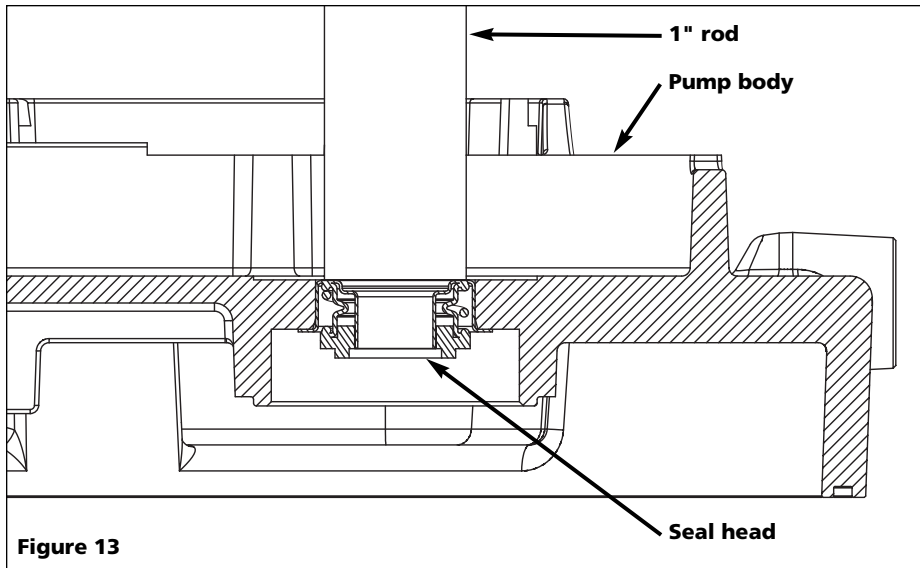

Figure 13
7. The other half of the seal (Seal Head) is located in the pump body. Use a 1" diameter rod from the engine side of the pump body to press the seal out (See Figure 13).